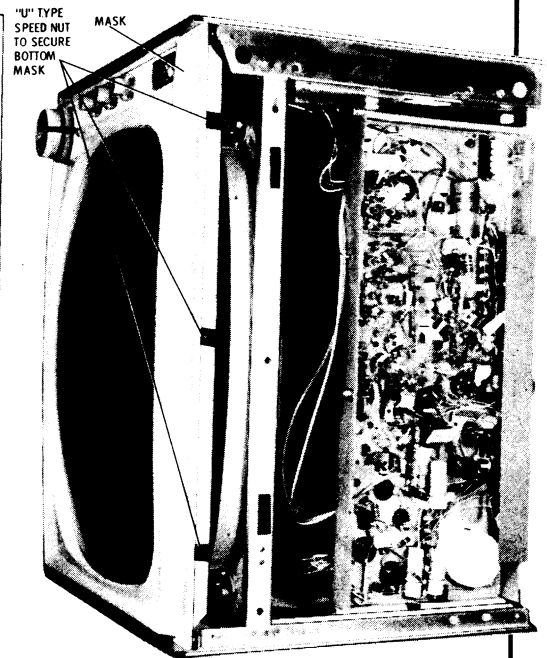

FIGURE 3A
SERVICING CHASSIS IN CABINET is easy, since entire bottom panel comes off by removal of nine (9) retaining screws in bottom panel. Voltages and waveforms can be taken and all chassis components are accessible. Observe all electrical safety precautions when working on the exposed chassis. (See Figure 3A.)
WARNING: When mask is replaced, inside locking screw must be replaced so untrained personnel cannot gain access to front of set. (See Figures 3A and 3B.)
1. Remove the entire wraparound, as illustrated in Figures 3A, 3B, and 3C; also remove the control bracket from the mask. Then disconnect the second anode connector, picture tube socket and deflection yoke cable. Remove yoke wedge clamp by compressing the ends and moving clamp and rubber retainer to rear. Slide yoke from picture tube neck. Loosen the picture tube mounting bolts at the upper left and right-hand corners of the mounting strap. Carefully remove picture tube.